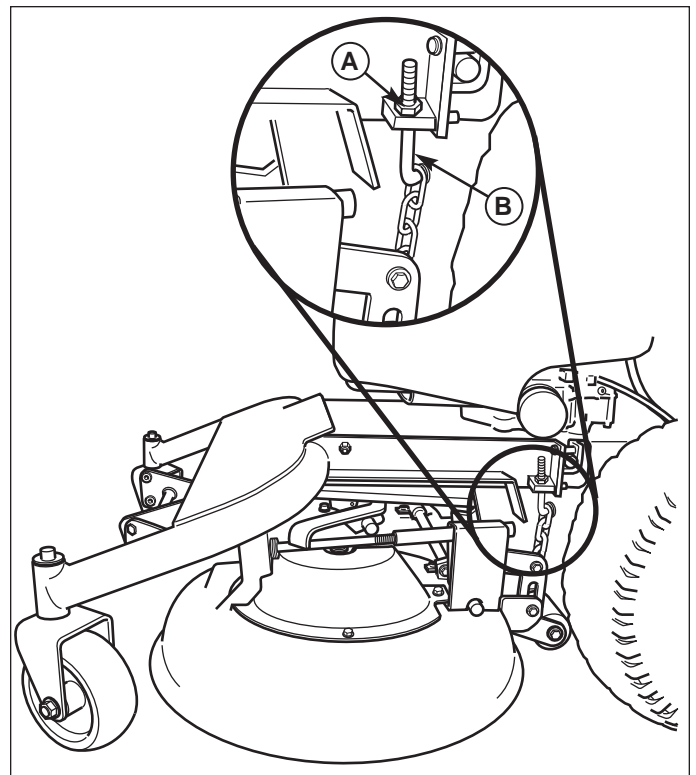
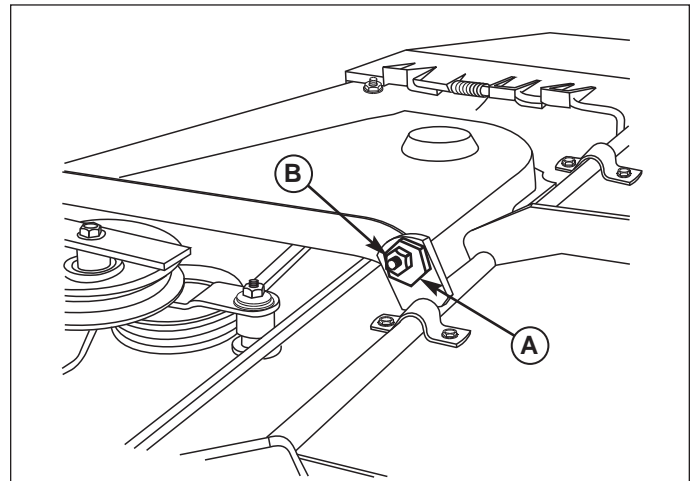

Figure 27. Side-to-Side Leveling - Later Models
Figure 29. Front-To-Back Leveling - 44" Models
5. See Figure 27. Hold the bolt (B) in place and turn the locknut (A) to raise or lower the side of the mower.
8. Loosen the jam nut (B, Figure 29) and turn the eccentric nut (A) to adjust the front-to-back level.
9. Tighten the jam nut (B).
NOTE: If proper front-to-back adjustment cannot be achieved using the eccentric (A, Figure 29), adjust the bolts (B, Figure 27) to raise or lower the back of the mower.